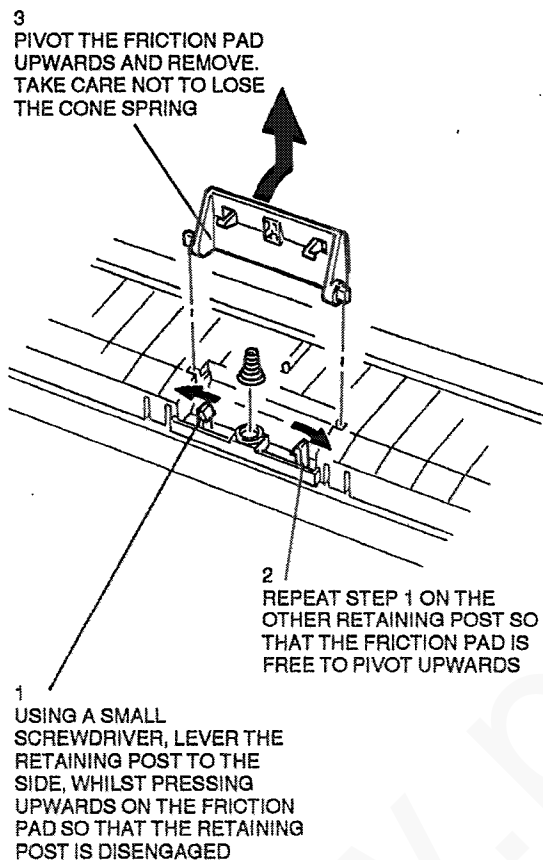

Figure 1. Friction pad removal
2. (Figure 1) Remove the friction pad.